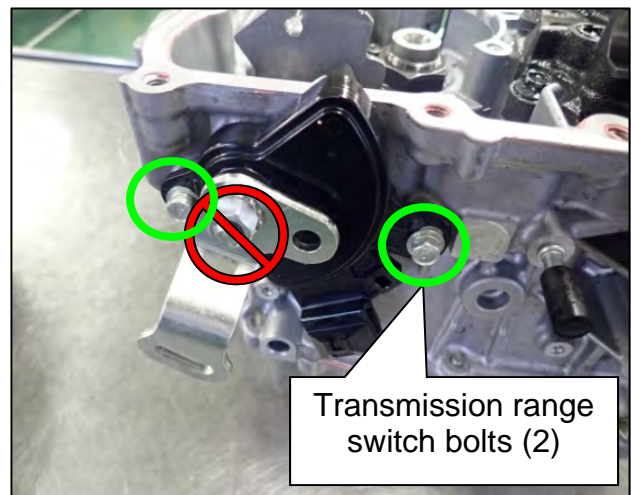

Figure 89
64. Remove the two (2) bolts shown in Figure 89 from the transmission range switch.